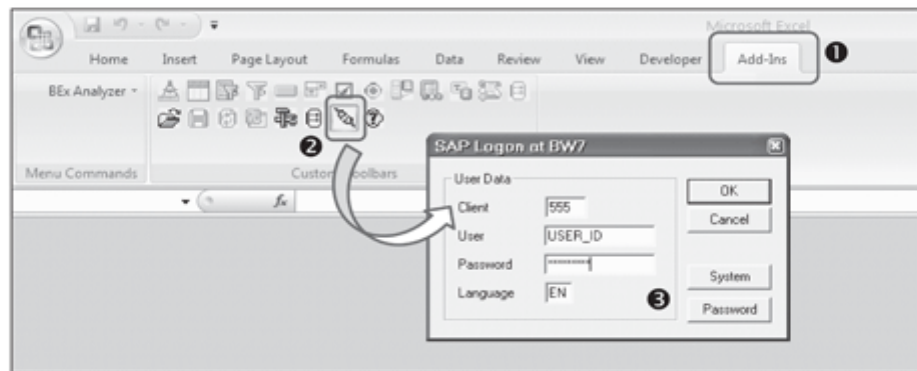
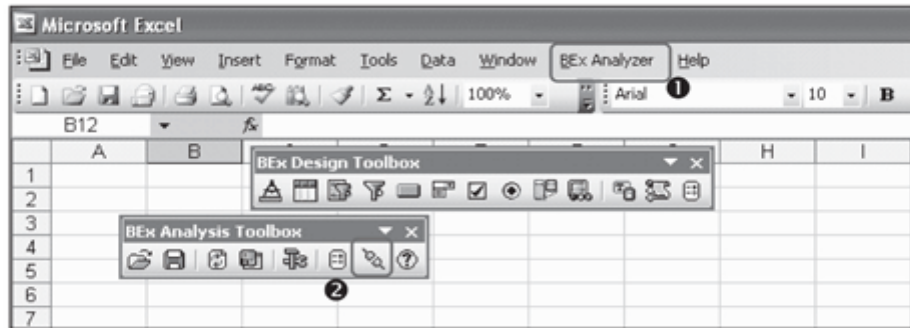

Figure 10.2 Connect to BEx analyzer
Figure 10.3 Connect to BEx analyzer (Excel 2003)
Starting BEx analyzer opens an Excel session on your computer. The BEx analyzer functions are available in Excel through the Excel add-in. These functions can be seen by clicking on the Add-Ins tab on the Excel toolbar, as shown in ❶ of Figure 10.2.
Figure 10.2 displays the BEx analyzer add-in in Microsoft Excel 2007. If you're using Microsoft Excel 2003, the BEx analyzer functions can be accessed as shown in Figure 10.3.
The BEx analysis Toolbox and BEx Design Toolbox are visible as two separate toolbars, and a new BEx analyzer menu is available in the Excel menu bar, as shown in ❶ of Figure 10.3. In this chapter, all of the figures and illustrations are made using Microsoft Excel 2007. The BEx functions remain the same in both versions of Excel.
To execute a query or to perform an analysis in BEx analyzer, you must first establish a connection with the SAP NetWeaver BW system. To make a connection, click on the Connection button (❷ of Figure 10.2; or ❷ of Figure 10.3). This opens the login screen for the SAP NetWeaver BW system; enter the login credentials to connect the BEx analyzer with SAP NetWeaver BW (❸ of Figure 10.2).